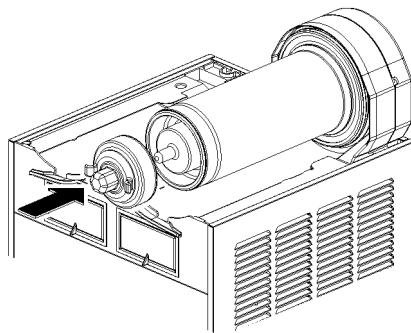

figure 13
- 5** Insert the magnetic outside rotor in the evaporator taking care to accompany it to the end (see figure 13).